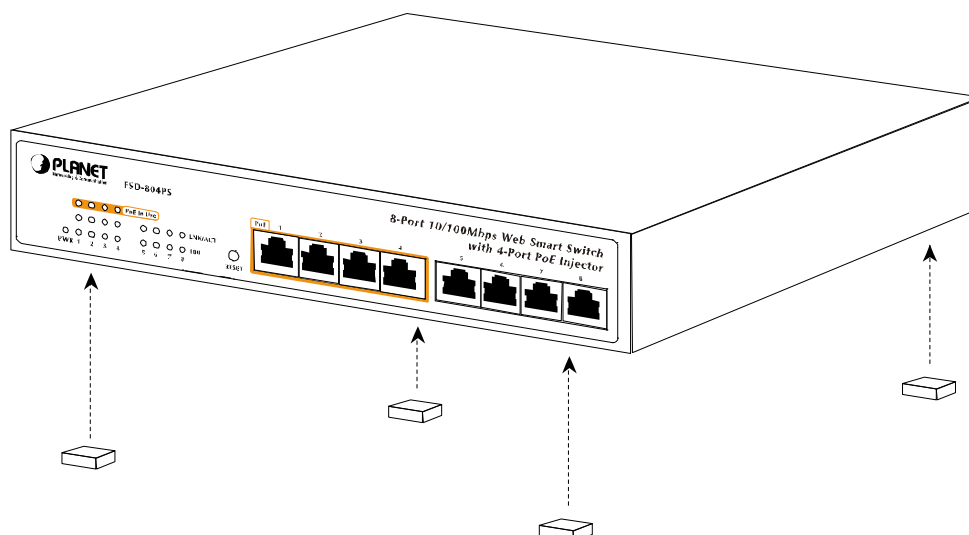

Figure 2-3 Attaching the rubber feet to the Fast Ethernet Switch
Step1: Attach the rubber feet to the recessed areas on the bottom of the Switch, as shown in Figure 2-3.